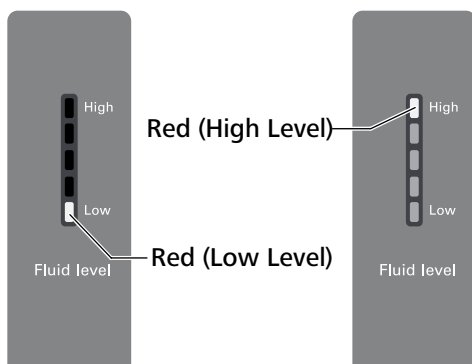

Fig. 7
- The low level warning message appear on the display. Meanwhile, the bottom LED segment of the lights up in red color to indicate the low fluid level (see Fig. 7).